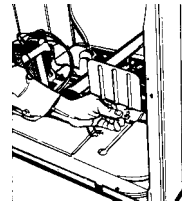

Fig. 31
1. Remove the screw from heat shield. (Fig. 31) Remove the wires to the heat element.